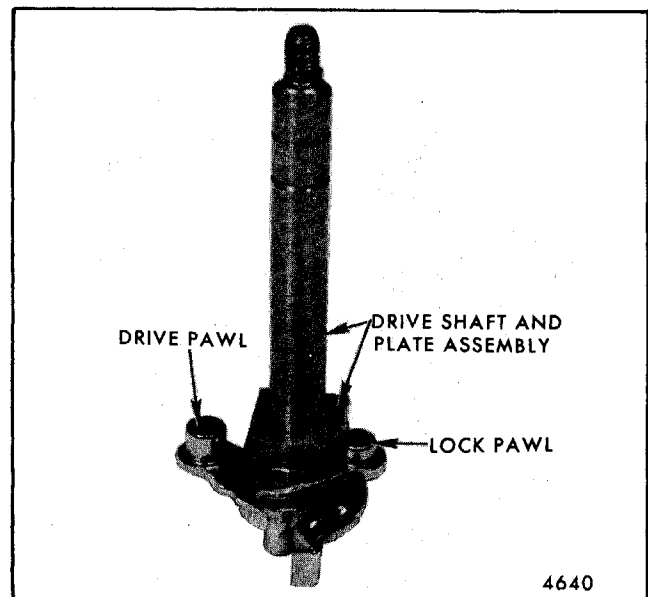

Fig. 2-70-Lock Pawl
2. Assemble lock pawl over drive pawl as shown in Figure 2-70.